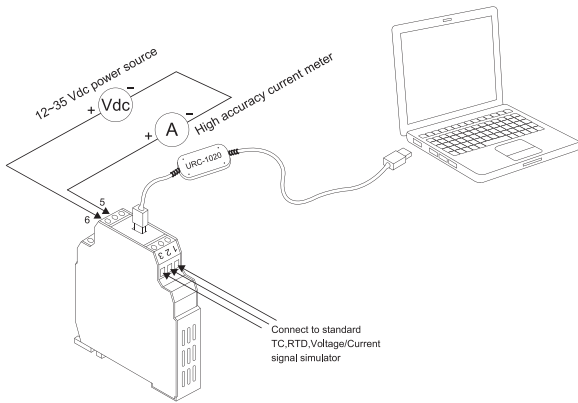

Figure 6. Calibration connection
- (1) Downscale (<4mA).
- (2) upscale (>20mA).
- (3) Cut. Limit the output signal within the output range when the input is out of measuring range.
7. **4~20mA Output Signal Calibration** : Zero and Span adjustment of output signal. A power source should be connected as Figure 6.